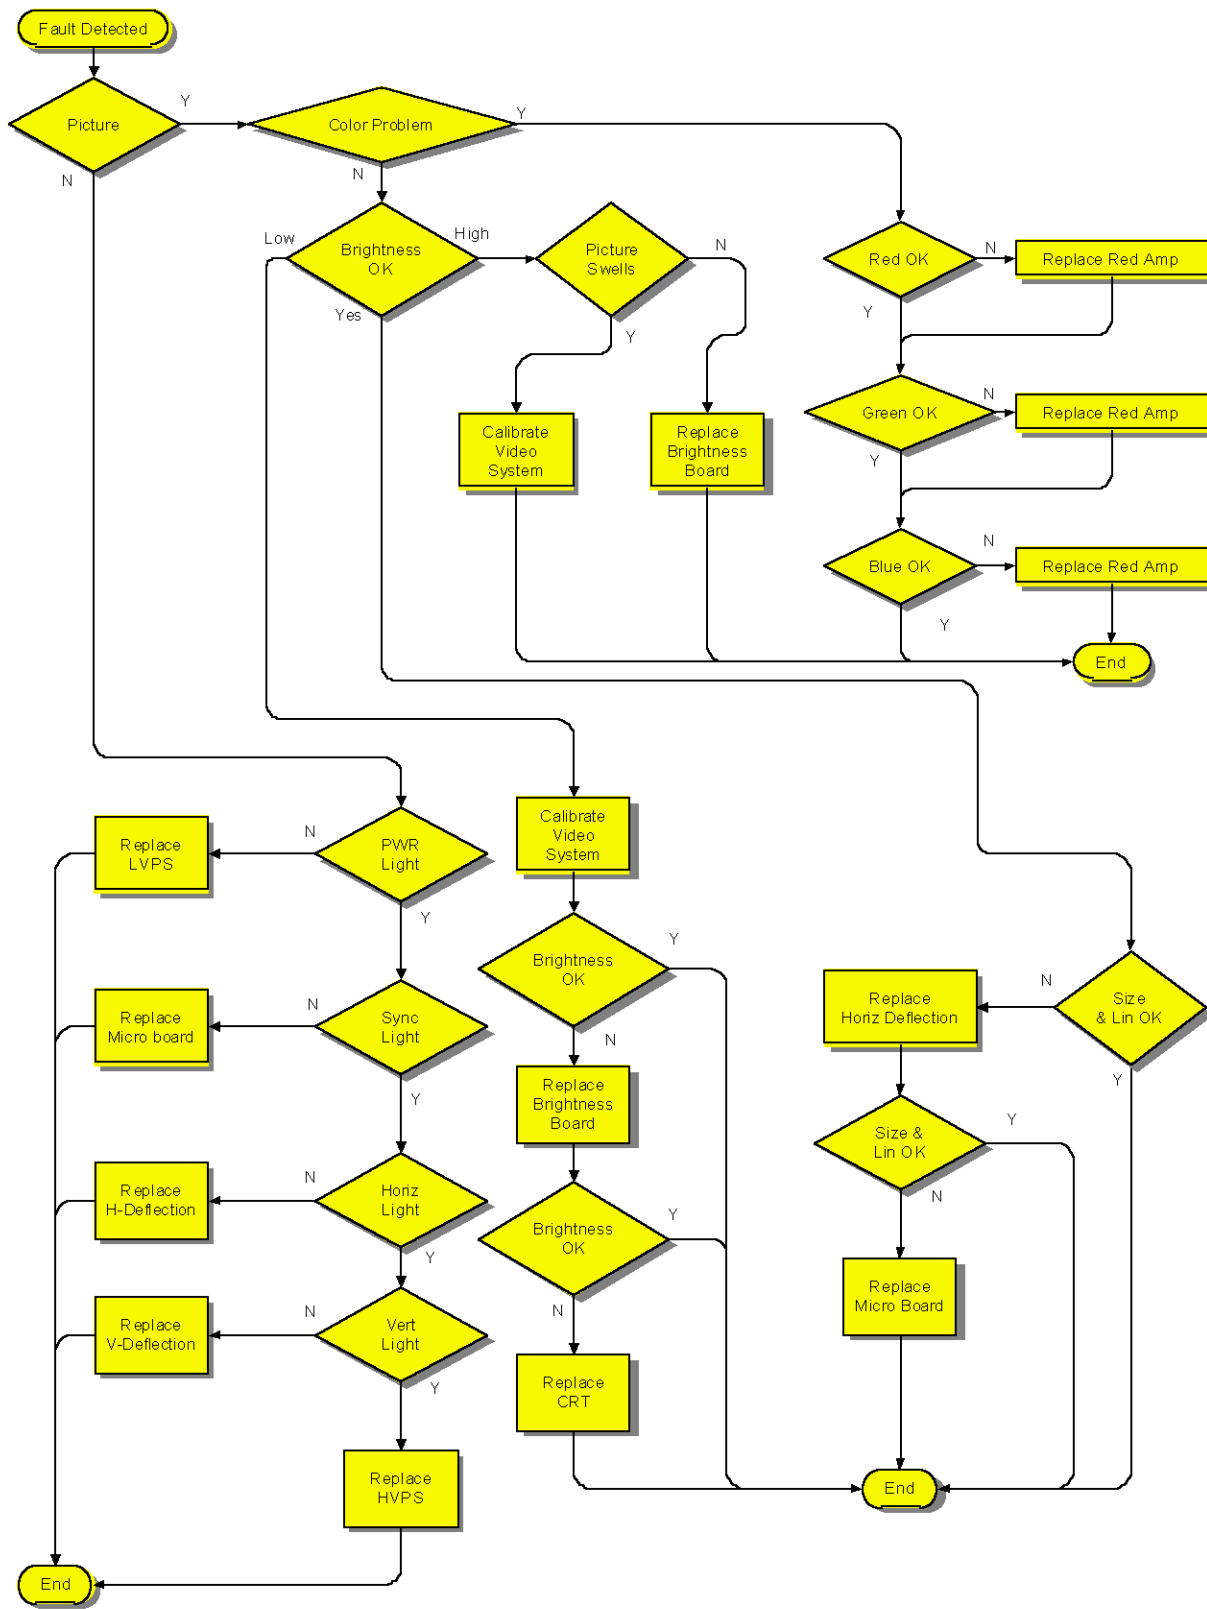

Figure 5: Organizational Level Troubleshooting Flowchart
5. Using the observations in step 1, consult the troubleshooting flow diagram (FIG. 5) to isolate the problem to a module or modules.